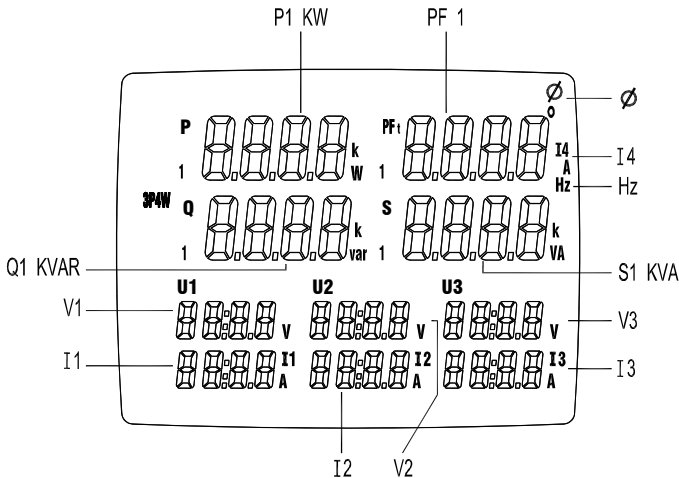

Figure 14. 3P4W General Display
- ① Connect the red voltage test lead to the “U1” terminal.
- ② Connect the yellow voltage test lead to the “U2” terminal.
- ③ Connect the blue voltage test lead to the “U3” terminal.
- ④ Connect the black voltage test lead to the “N” terminal.
4. Connect the voltage test leads to the electrical equipment to be tested as shown in Figure 14. 3P4W Phase Sequence Connection Diagram
- ① Connect the red voltage test alligator clip to Phase 1 “L1”.
- ② Connect the yellow voltage test alligator clip to Phase 2 “L2”.
- ③ Connect the blue voltage test alligator clip to Phase 3 “L3”.